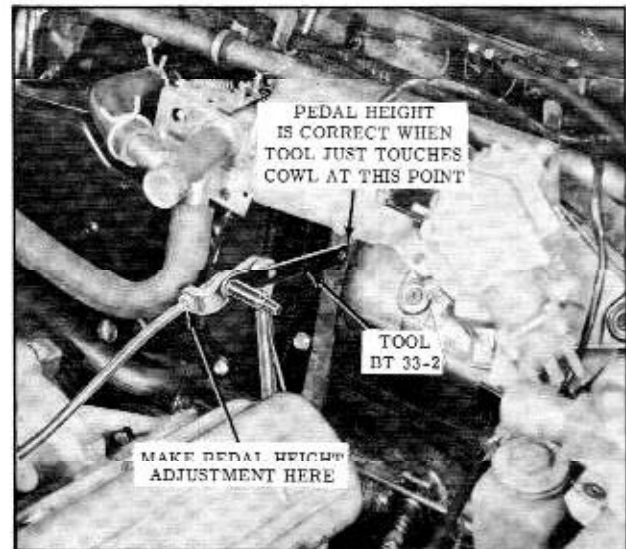

Fig. 8-63 Accelerator Pedal Height Adjustment
- Adjust accelerator pedal with Tool BT 33-2 as shown in Fig. 8-63.